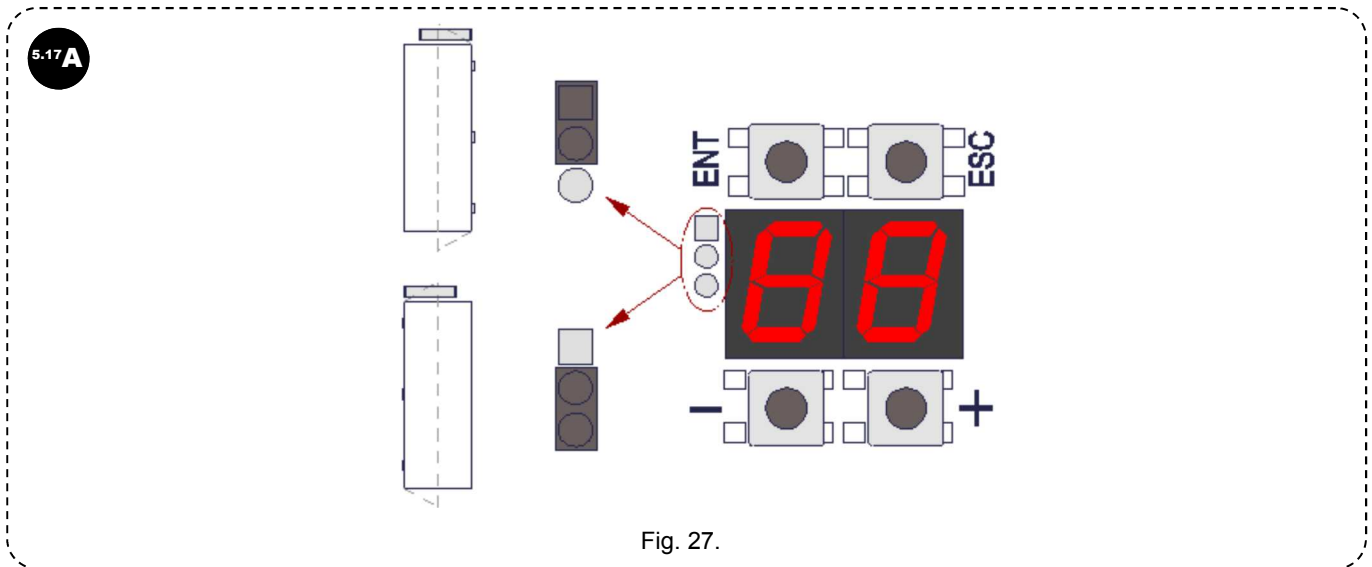

Fig. 27.
The two seven-segment displays shown in Fig. 27 and located on the electronic card with 4 buttons, control the main parameters and the advanced options for managing the operator in various types of installation.
To correctly view the display, configure the jumper according to the side which the door will open, indicated in Fig. 27.
- Turn switch (A) OFF.
- Turn switch (A) to ON.
- Check that the display comes on and that E6 is shown: if necessary, configure the jumper to see the display correctly (See Fig. 27);